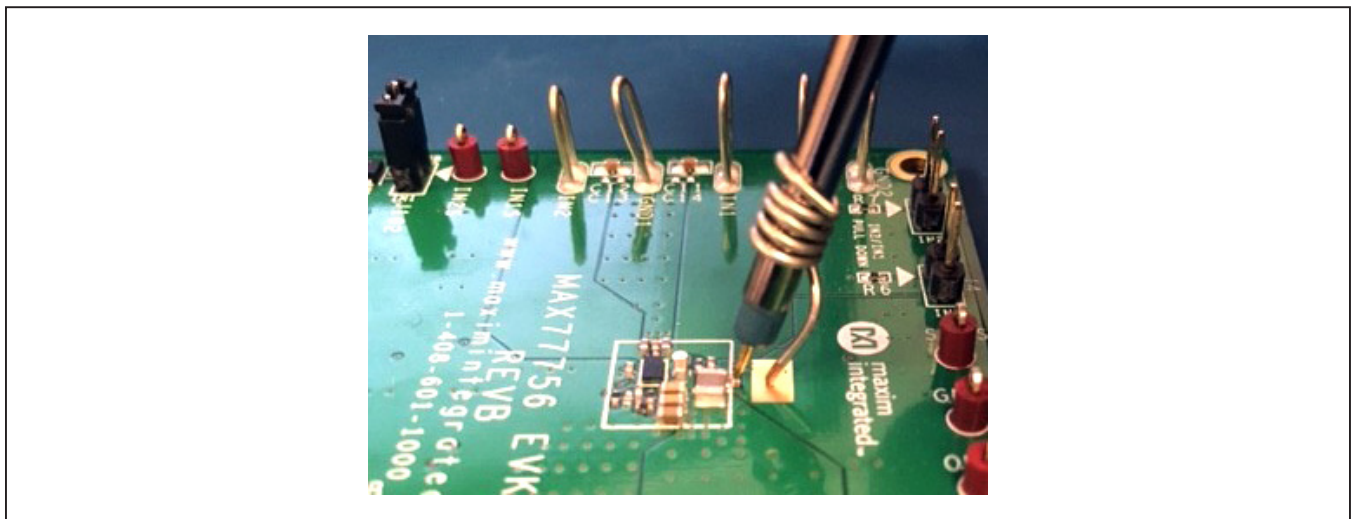

Figure 5. High-Performance LX Probing Technique
- 4) Place the tip of the oscilloscope probe on the bare copper connected to the inductor (L1) and place the ground lead on the exposed copper ground pad above L1, as shown in Figure 5.